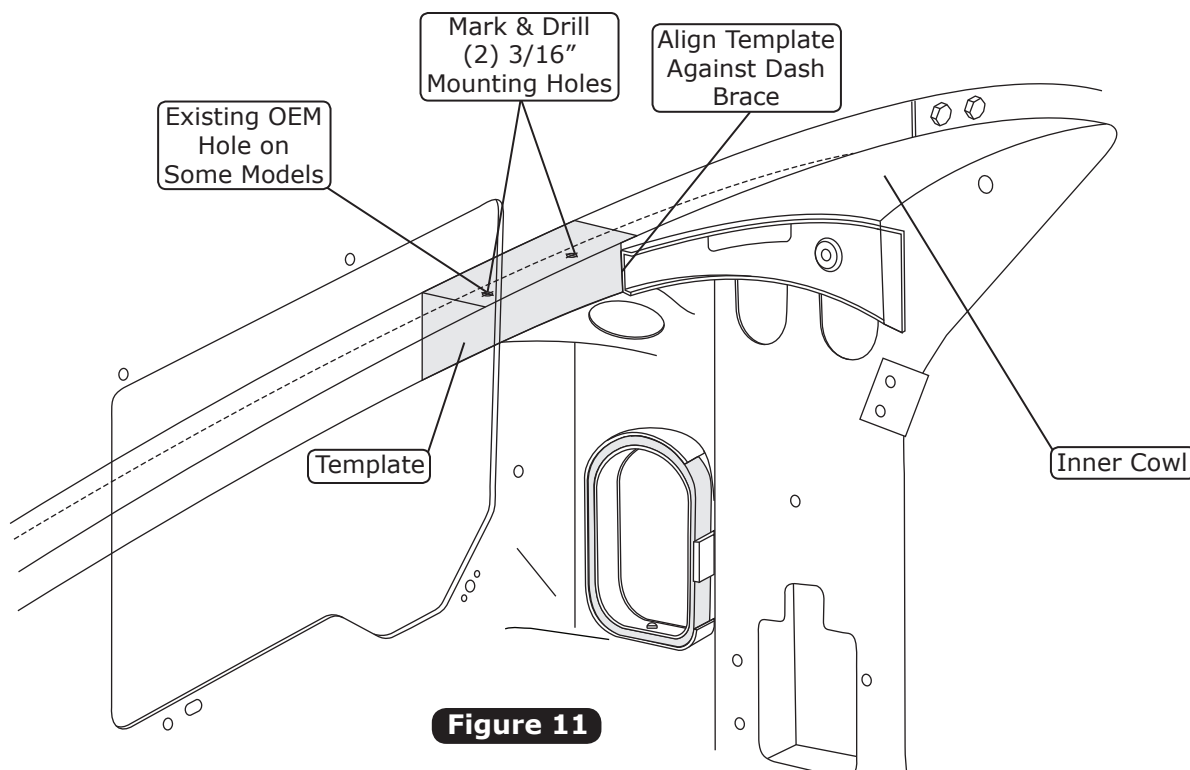

Figure 11
1. Cut out the template provided on Page 29. Place the template under the dash on the inner cowl as shown in Figure 11, below.
2. Once the template is aligned correctly against the dash brace, tape the template into place. Mark the mounting hole locations on the inner cowl. Once the holes are marked in the correct location, drill (2) $\frac{3}{16}$ " holes in the inner cowl for the front evaporator mounting bracket (See Figure 11, below). **NOTE: Some models may have an OEM hole in the inner cowl as shown in Figure 11, below.**